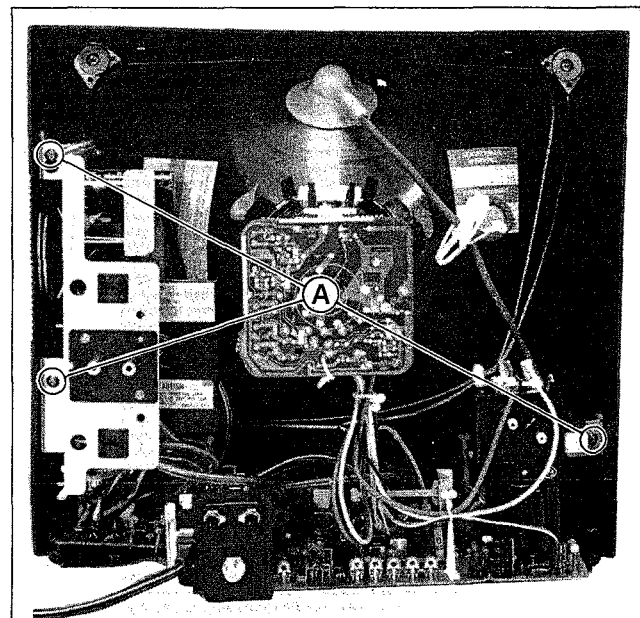

Fig. 2
1. Remove the three screws marked (A) in Fig. 2. Then remove the anode wire and other wires (if necessary).